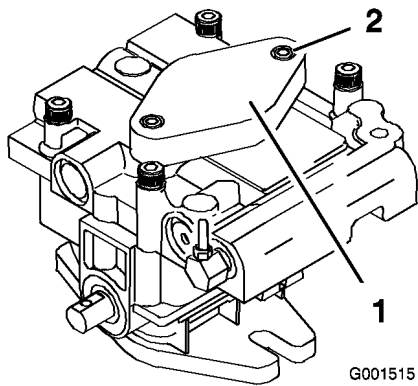

Figure 56
7. To prime the charge pump, loosen two hex socket head capscrews (Figure 56) 1-1/2 turns only. Make sure engine is not running. Lift charge pump housing upward and wait for a steady flow of oil to flow out from under housing. Retighten capscrews. Do this for both pumps.